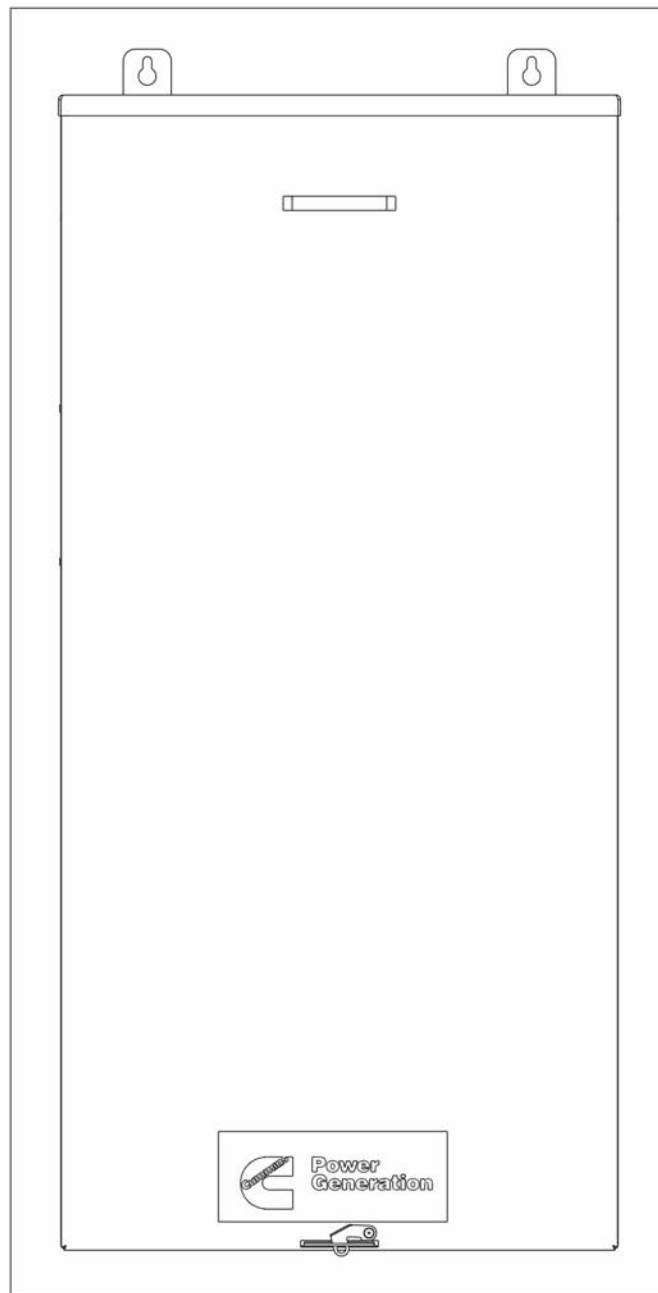

FIGURE 35. RA SERIES 400A SERVICE ENTRANCE TRANSFER SWITCH MODEL
- Figure 35. RA Series 400A Service Entrance Transfer Switch Model 67